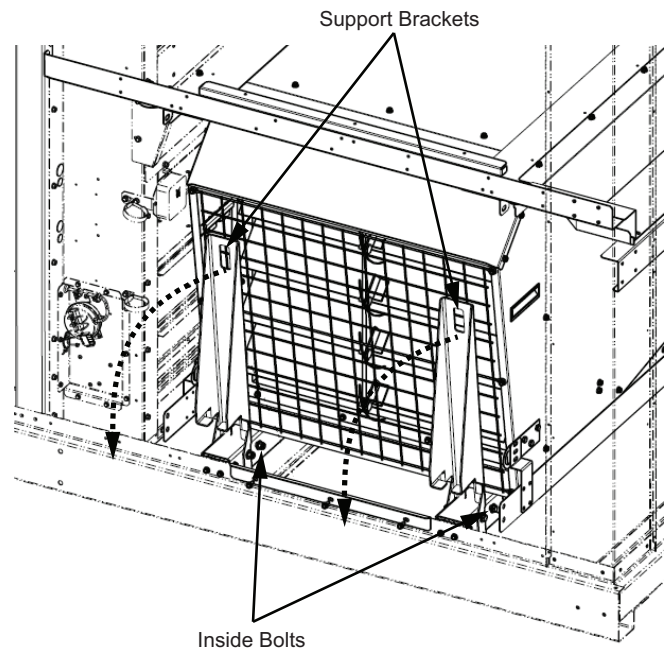

Fig. 35 — Power Exhaust Support Bracket and Inside Bolt Locations
7. Remove the inside bolts for the 2 support brackets and save the bolts. See Fig. 35.
8. Rotate the 2 support brackets down to the operating position and re-install the bolts. See Fig. 35.